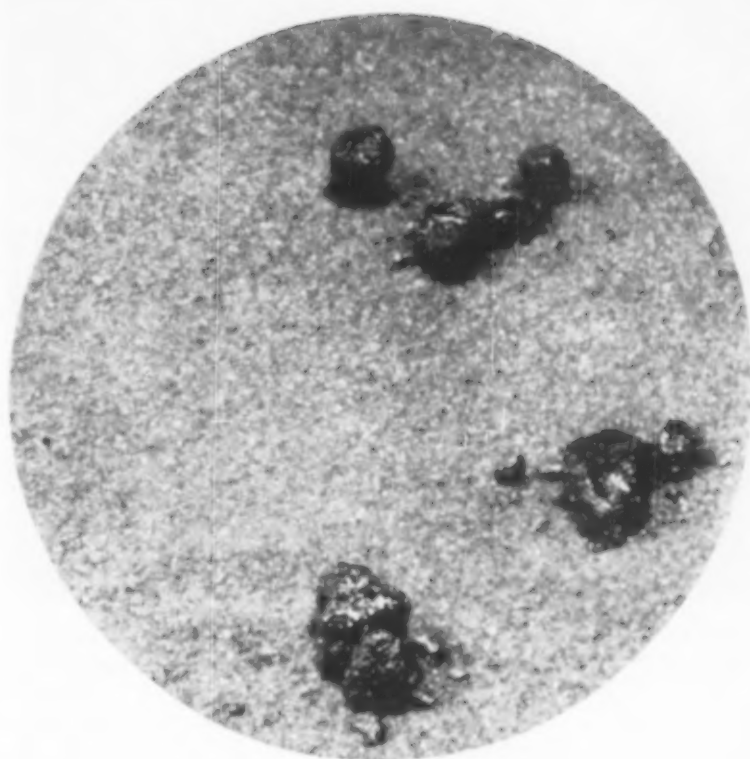

Fig. 3 . . Puffs of resin on shell are caused by poor mixing practice.
2. *Improve mixing practice.* Good distribution of resin and sand is essential both for adequate strength and for a homogeneous mix. One indication of poor mixing is the appearance of resin puffs on the shell surface, as illustrated in Fig. 3.